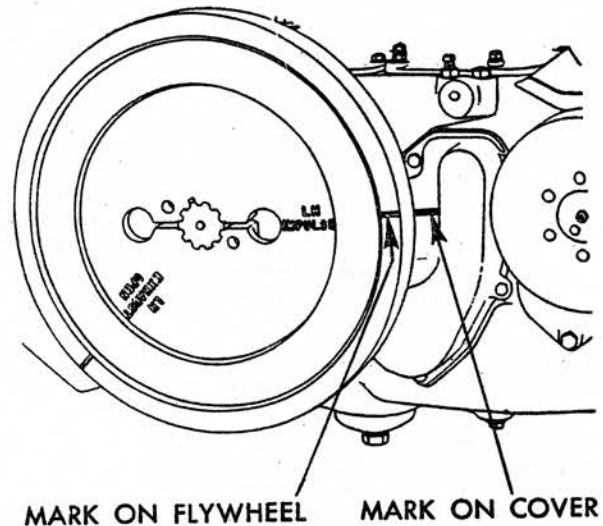

Fig. 12 Governor and magneto timing. Typical of all A, B, D, G, H series
**NOTE**—Reassemble parts removed, being sure to mesh the camshaft gear with the crankshaft gear in accordance with the instructions outlined under "Valve Timing." When this is done, mesh the governor gear with the camshaft gear so that the "L.H. IMPULSE" mark on the flywheel, Fig. 12, is in line with the mark on the transmission cover.
flywheel, Fig. 12, is in line with the mark on the transmission cover.
**NOTE**—Be sure to mesh the camshaft gear with the crankshaft gear according to the instructions given under "Valve Timing." When this is done, mesh the governor gear with the camshaft gear so that the "L.H. IMPULSE" mark on the flywheel, Fig. 12, is in line with the mark on the transmission cover.